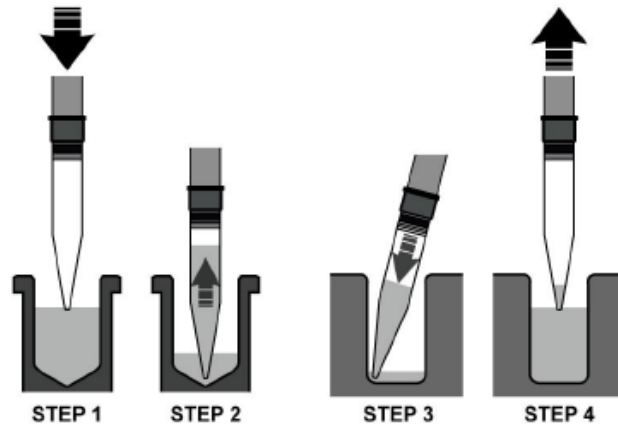

Figure 21. Reverse pipetting.
- Add Gel-Dye solution to chip wells 3, 7, 8 and 10 using a Reverse Pipetting Technique as shown in Figure 21.